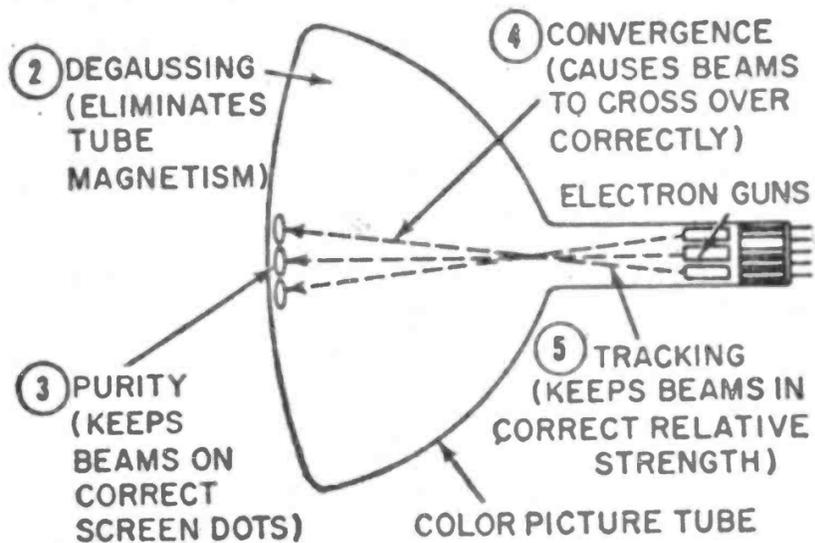

Fig. 2. The five major steps to accomplish in adjusting color TV for optimum performance.
**Major Steps.** Adjusting the color set requires no grasp of complex theory, but a quick preview of major steps (see Fig. 2) and why each is performed could prove helpful. The job begins with:
① CONVENTIONAL ADJUSTMENTS (PICTURE HEIGHT, WIDTH, ETC.)